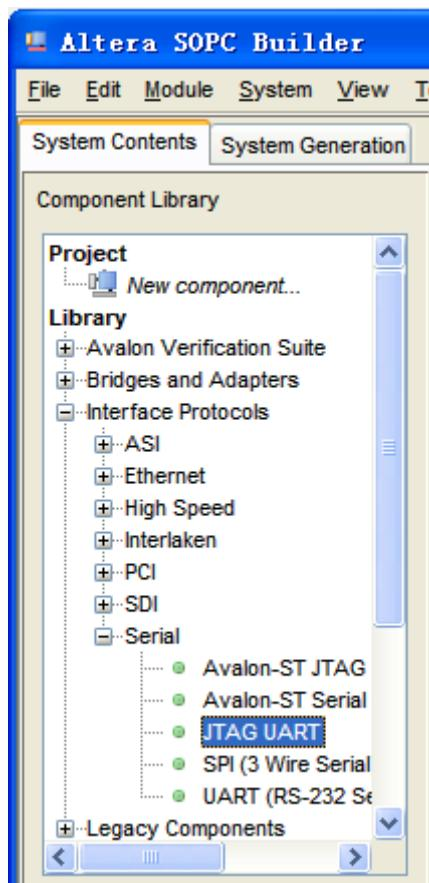
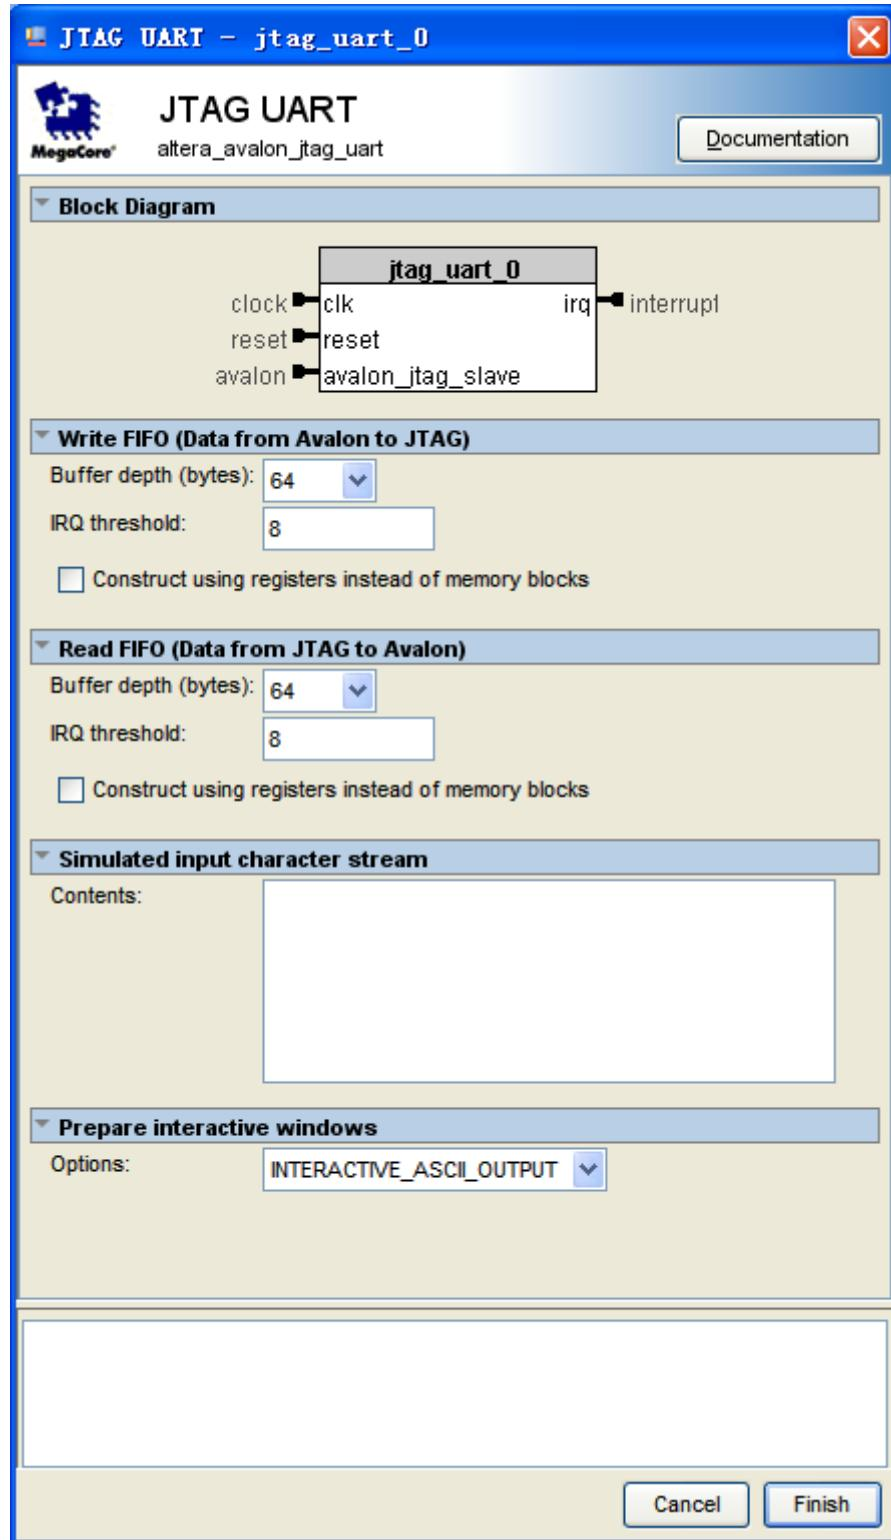

Figure 7-19 Add the JTAG UART component
Figure 7-20 JTAG UART's add wizard
11. Add a second component by selecting **Library > Interface Protocols > Serial > JTAG UART** and clicking the **Add...** button, as shown in Figure 7-19 and Figure 7-20.